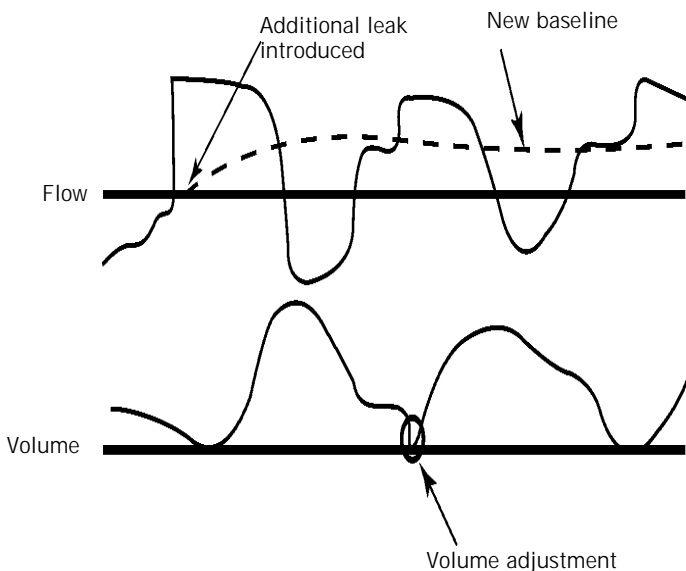

Figure 4-5: Tidal volume adjustment
**Tidal volume adjustment.** Every breath, the ventilator compares the inspiratory and expiratory tidal volumes. Any difference is assumed to be due to an unintentional circuit leak. The ventilator adjusts the baseline to reduce this tidal volume difference for the next breath. Figure 4-5 shows how the ventilator adjusts the baseline.